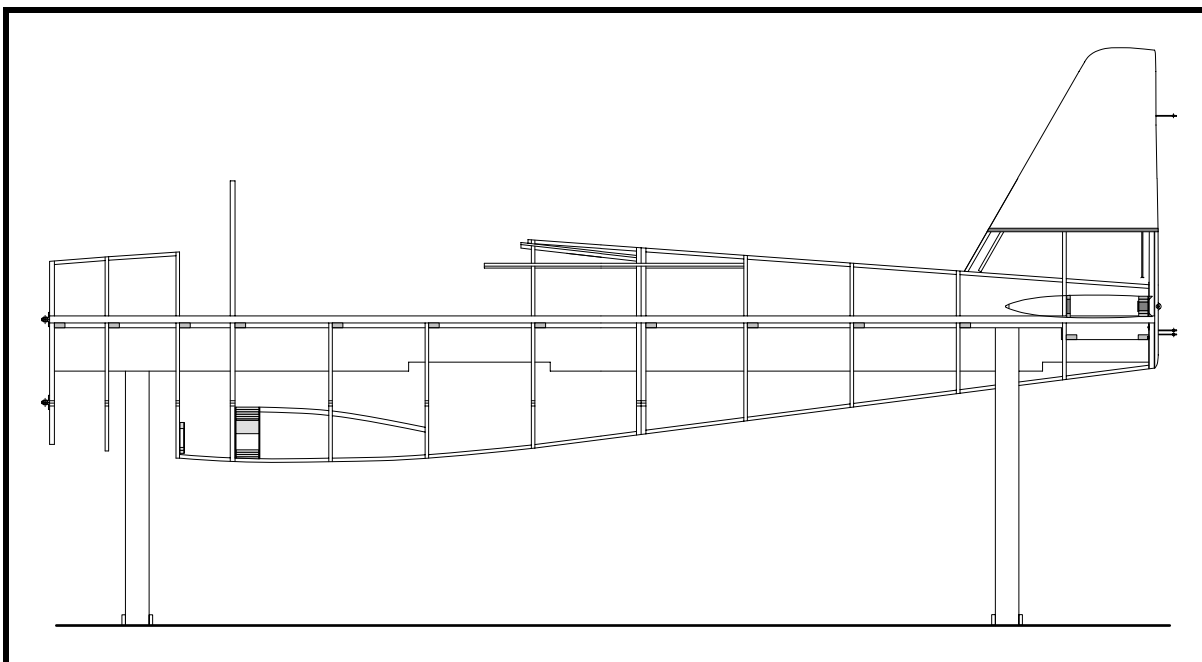

Figure 20
- ☐ Clamp the right 30x15 shoulder belt support framing strip in position. See Figure 20. Sand the cutouts to fit.